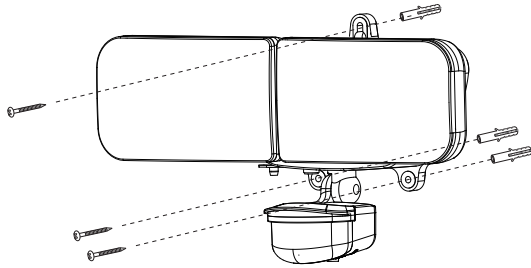

figure 1
- 2) Fix the whole lamp on the wall; (Figure 1)